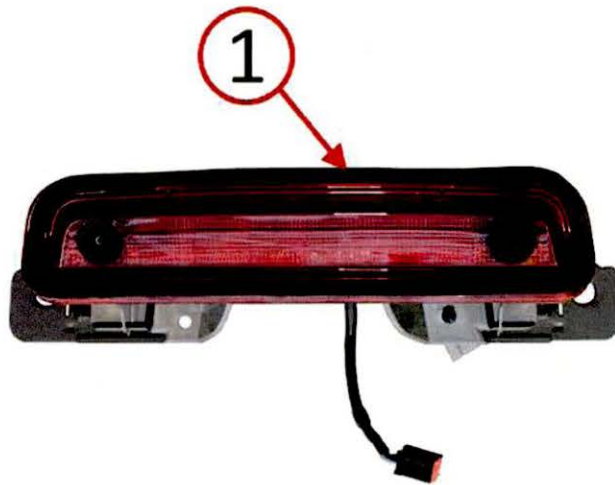

Fig. 2 CHMSL Seal
3. Inspect the CHMSL to decklid seal for any damage and/or deterioration. Replace if necessary to prevent water intrusion (Fig. 2).